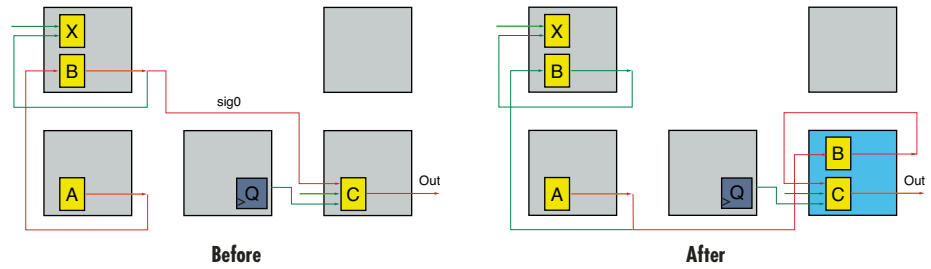

Figure 1 – Logic Duplication.
- **Logic Duplication:** If a LUT or flip-flop drives multiple loads, and the placement of one or more of those loads is too far away from the source to meet timing, the LUT or flip-flop can be replicated and placed close to that group of loads, thus reducing routing delays (Figure 1)